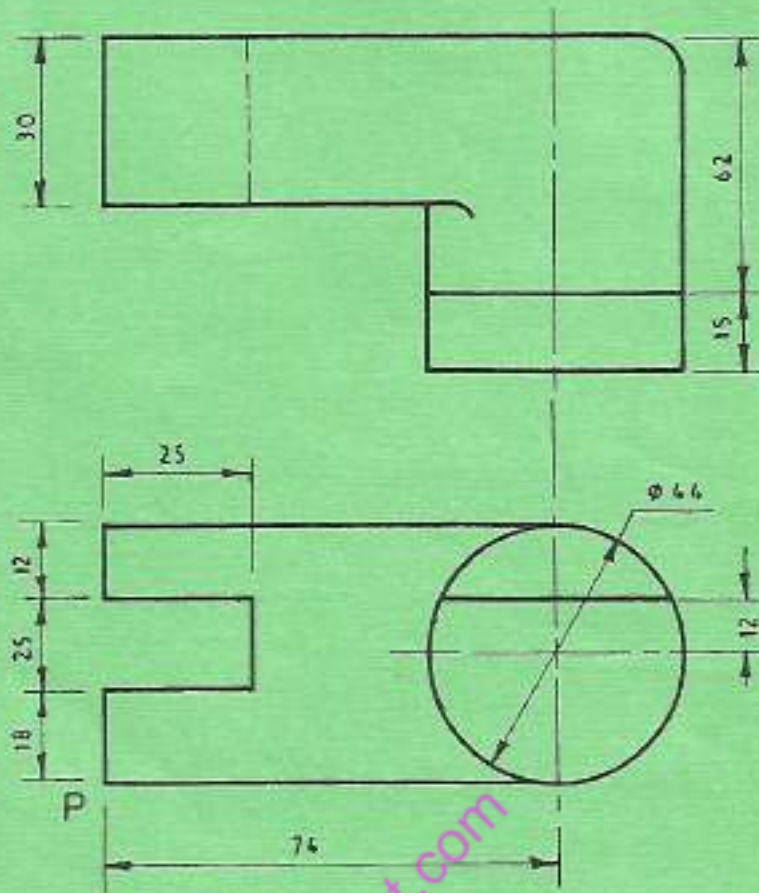

Fig. 3
7. **Figure 3** shows two views of an object drawn in third angle projection. Draw an isometric view of the object taking corner P as the lowest, (20 marks)